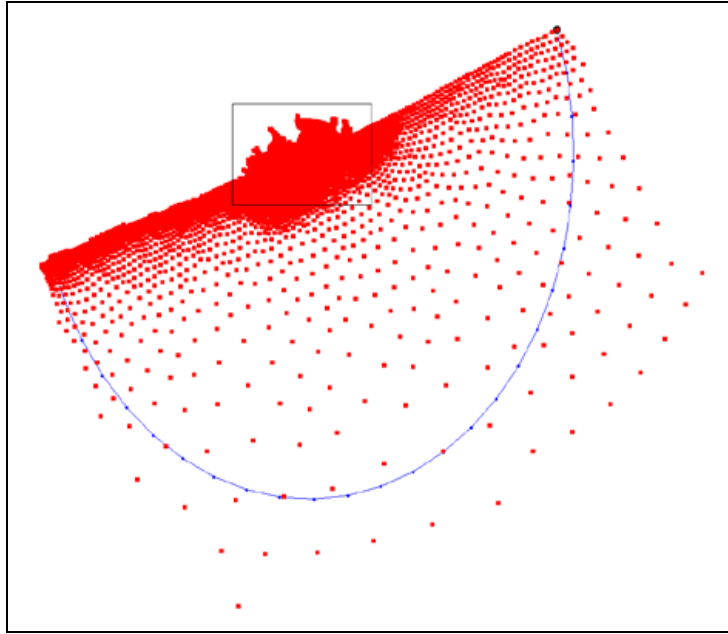
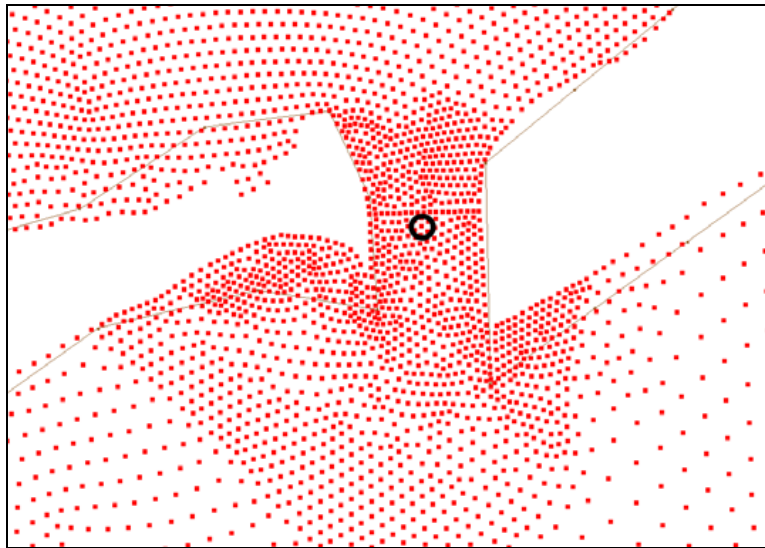

Figure 3 Inlet location to zoom in on
Figure 4 Choose a center point
1. Still in the Scatter  module, zoom in to the area of the inlet shown in Figure 3 with the **Zoom** tool until the screen looks like Figure 4.